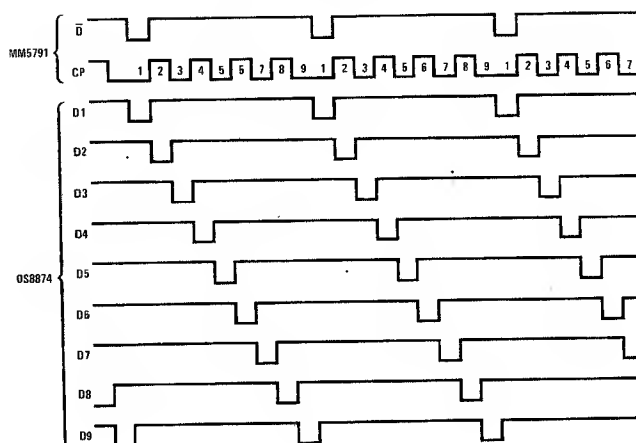

FIGURE 3. Digit Timing
Data ( $\bar{D}$ ) and Shift (CP) outputs are the only two connections required between the MM5791 and the digit driver. This reduces the number of pins on both packages and the amount of interconnect on the printed circuit board. *Figure 3* shows the timing relationships between the MM5791 and DS8874.